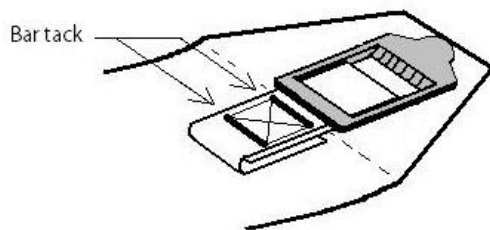

Figure 4. Shoulder strap end assembly.
- 2.8 Sew ladderlock to shoulder straps with 5" piece of 1" webbing as shown in *Figure 4*. Bartack webbing to straps where shown. Make sure you sew webbing on to end up with a right and a left strap.